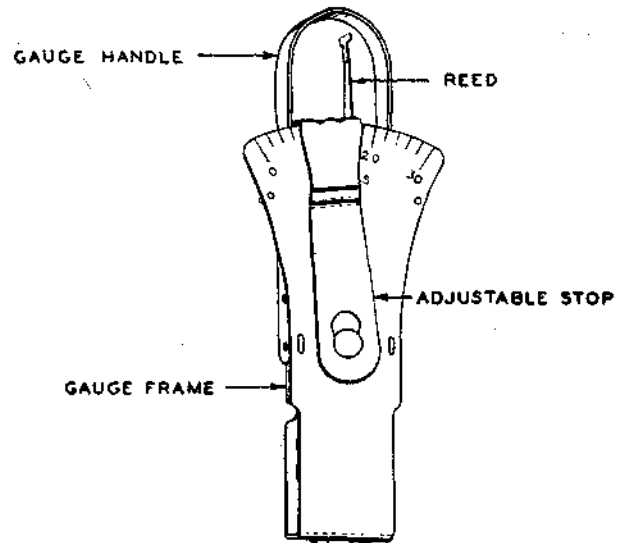

Fig. 2 - No. 70H Gram Gauge with the Handle Folded Back
1.04 To protect the reed of a fan-type gauge from damage when the gauge is not in use, the gauge handle when furnished should be folded back and locked in position with the reed in the position shown in Fig. 1 or Fig. 2.